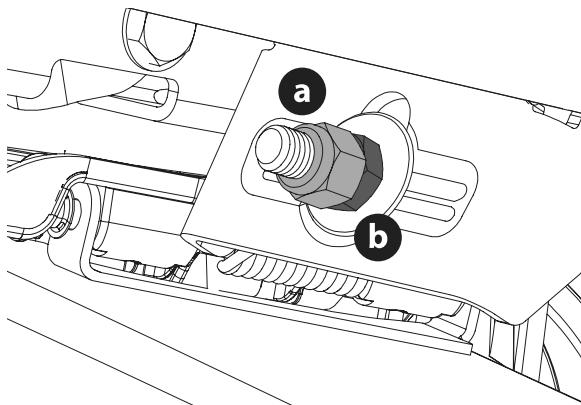

Figure 39
- To **raise** the front of the deck, remove the end cap, loosen the outer jam nut (a) then tighten (thread inward) the inner nut (b) against the front hanger bracket (Figure 39). When proper adjustment is achieved, re-tighten the outer jam nut (a) to 57 ft-lbs (77 N-m) and replace the end cap.
- To **lower** the front of the deck, remove the end cap, loosen the outer jam nut (a) then loosen (thread outward) the inner nut (b), away from the front hanger bracket (Figure 39). When proper adjustment is achieved, re-tighten the outer jam nut (a) to 57 ft-lbs (77 N-m) and replace the end cap.